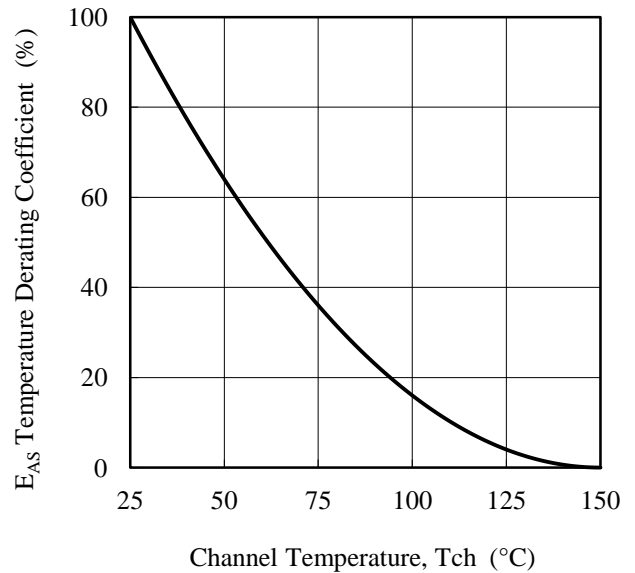

Figure 3-2 Avalanche Energy Derating Coefficient Curve
(2) Refer to Figure 3-2 Avalanche Energy Derating Coefficient Curve